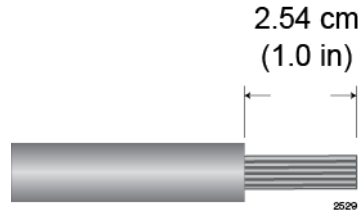

Figure 58. Stripping the solid or Stranded Grounding Wire
1. Prepare an adequate length of solid or stranded 10 AWG grounding wire by stripping it as shown in Figure 58.